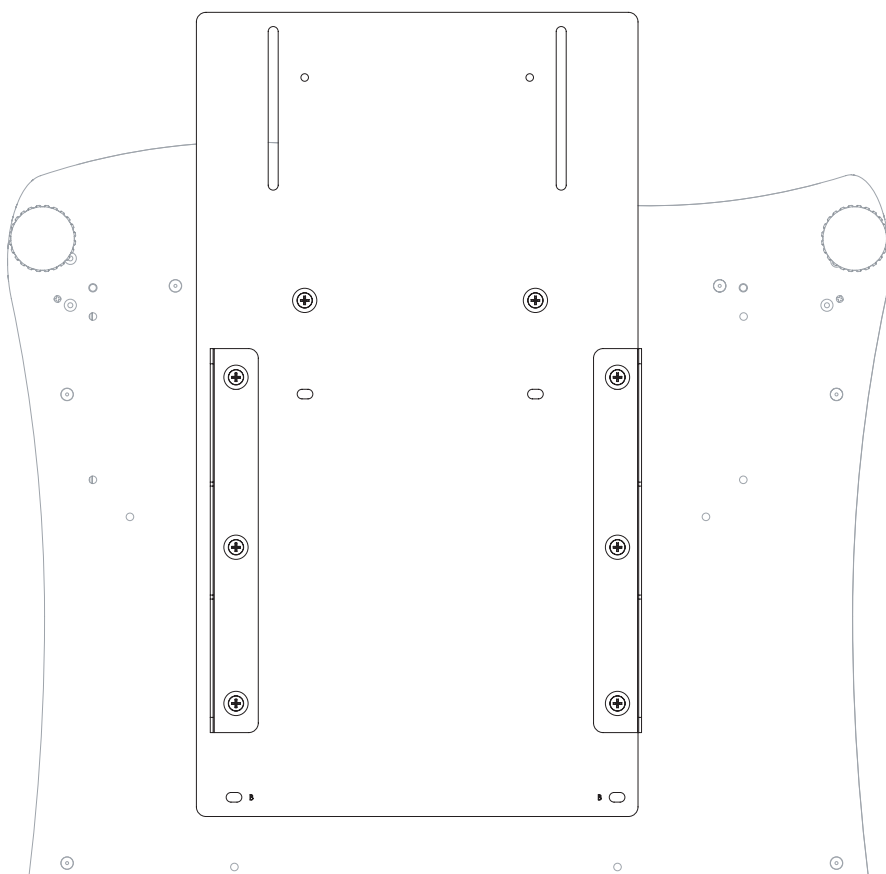

Figure 3-10. X-200i/CineWide with McKinley (Cylindrical) Lens Base Plate and Ceiling Mounting Rails - Bottom View
4. Secure the CineWide base plate (and ceiling mounting rails, if needed) to the projector with the Pan-Head Phillips screws provided with the CineWide lens base plate. See Figure 3-10.